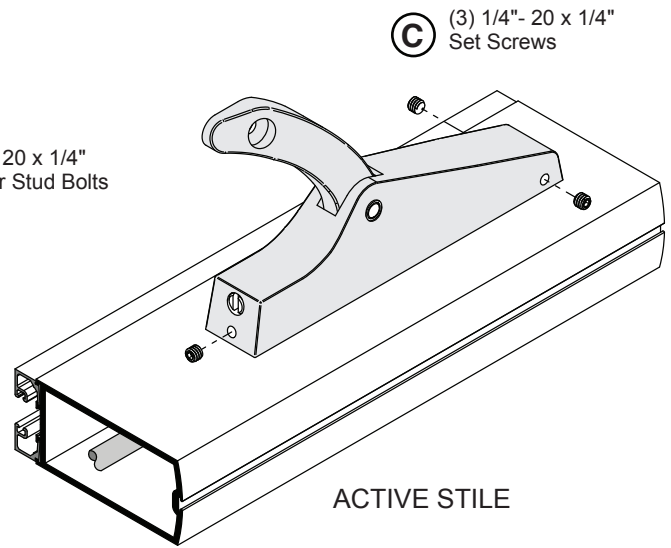

FIG. 13
2. Attach Active Body and Arm Assembly using (3) **(C)** 1/4"- 20 x 1/4" Set Screws (Fig. 13).